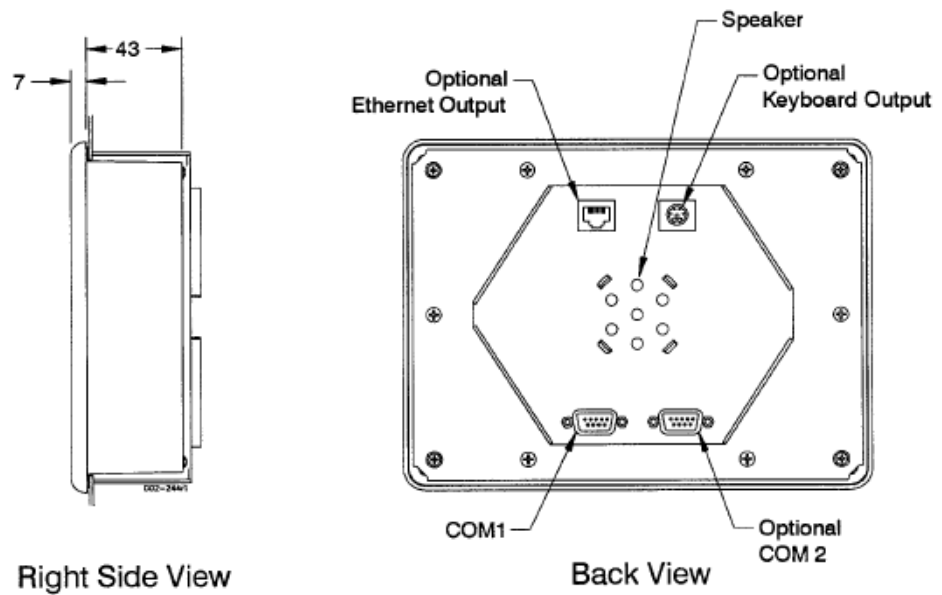

Figure 7
3. On the back of the panel, place the terminal mounting bracket against the back of the terminal, and align it with the back panel. Refer to Figure 7.